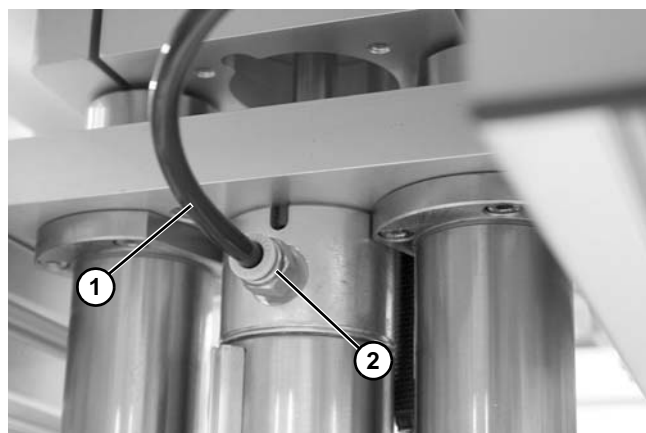

Figure 103
3. Remove tubing (Figure 103, item 1) from the upper port (Figure 103, item 2) on the lift cylinder.